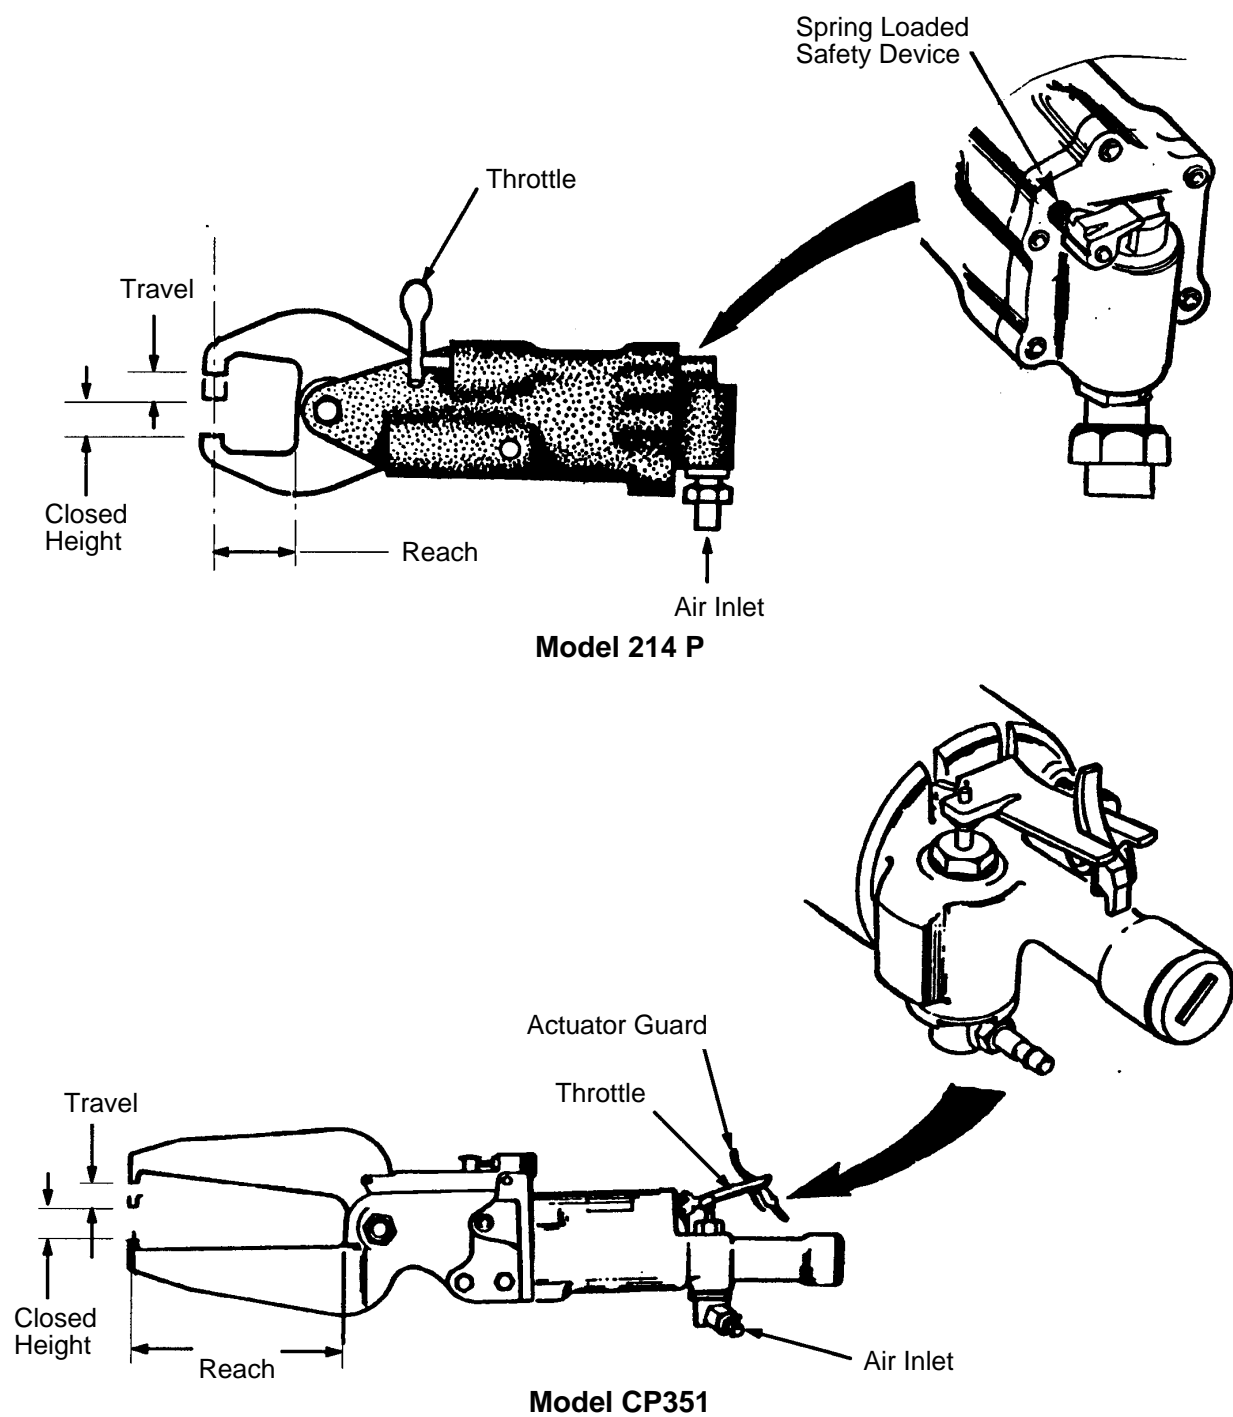
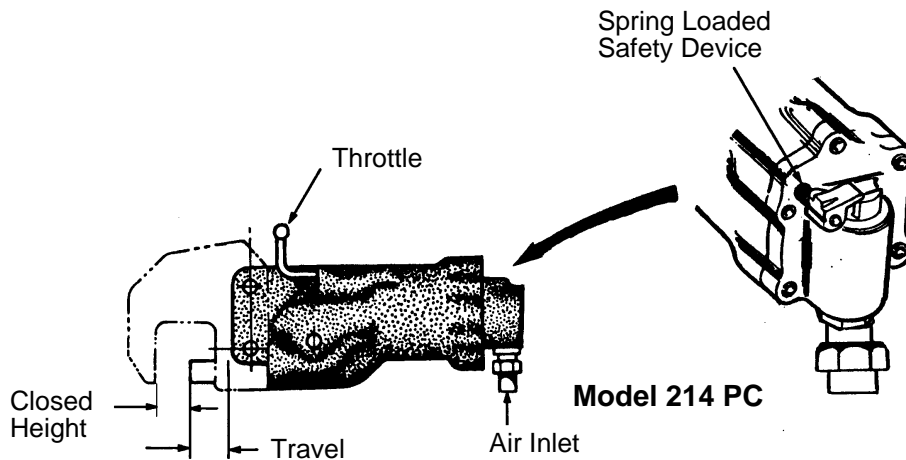

Figure 1 - Alligator Rivet Squeezers
Figure 2 - "C" Type Rivet Squeezer
- 5.2.1 There are two types of portable rivet squeezers, “C” type yoke and alligator type. Alligator squeezers are of two types, model CP214 P which has small jaws and model CP351 which has large jaws (see Figure 1). The yokes of the “C” type rivet squeezers are interchangeable and may be changed as required (see Figure 2).